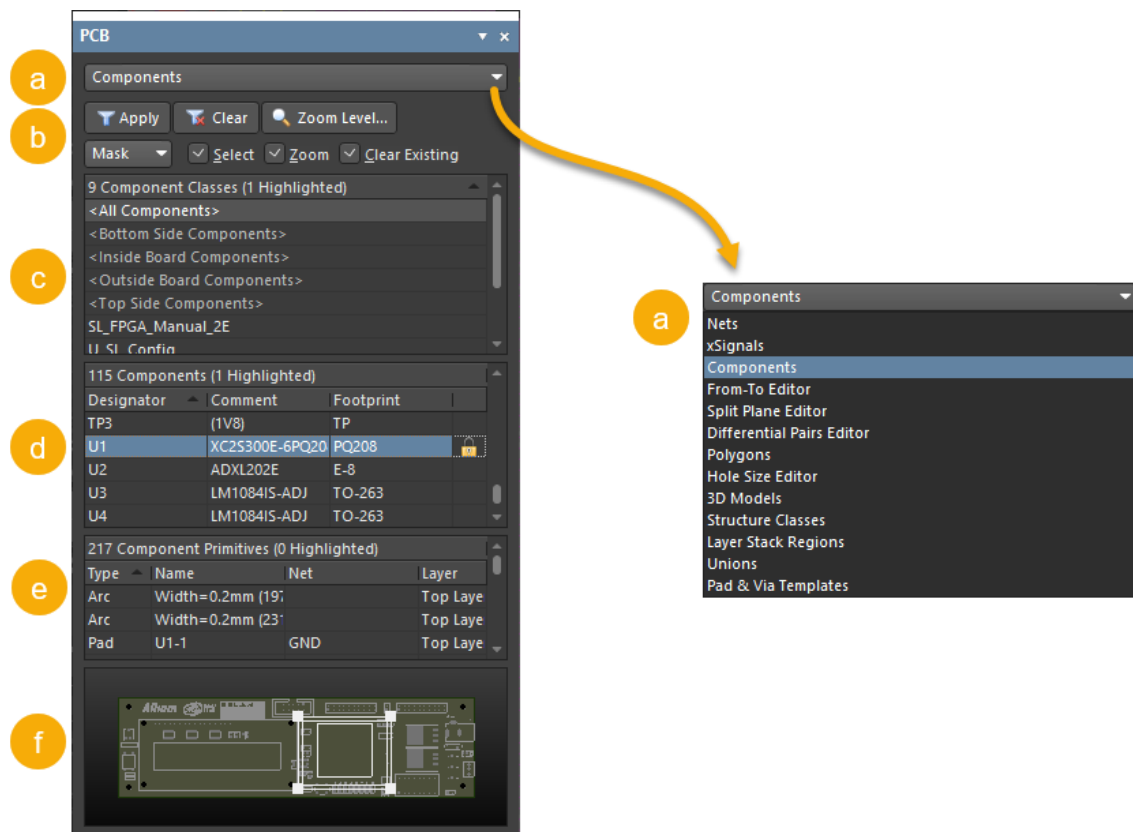

Figure 4. PCB Panel
11. The PCB panel has six different areas, see Figure 4: